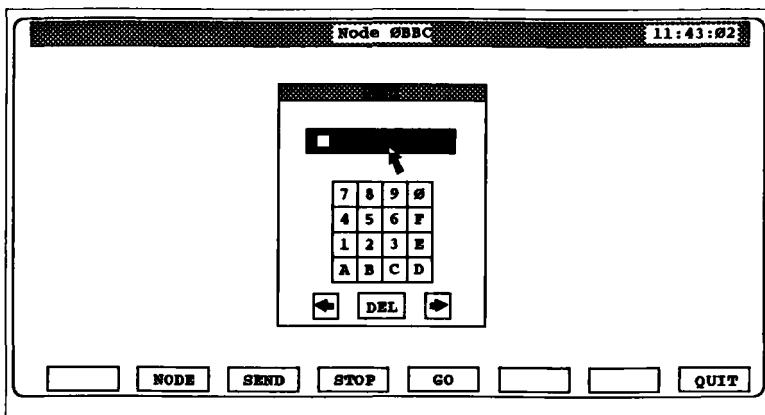

Figure 6.3 NODE Pop-Up Hexadecimal Keyboard (REMOTE Utility)
- **NODE.** Specifies the hexadecimal node address of the remote device you want to communicate with, which then appears in the centre of the message bar at the top of the screen. Figure 6.3 shows the NODE softkeys and pop-up hexadecimal keyboard for entering the required node address.